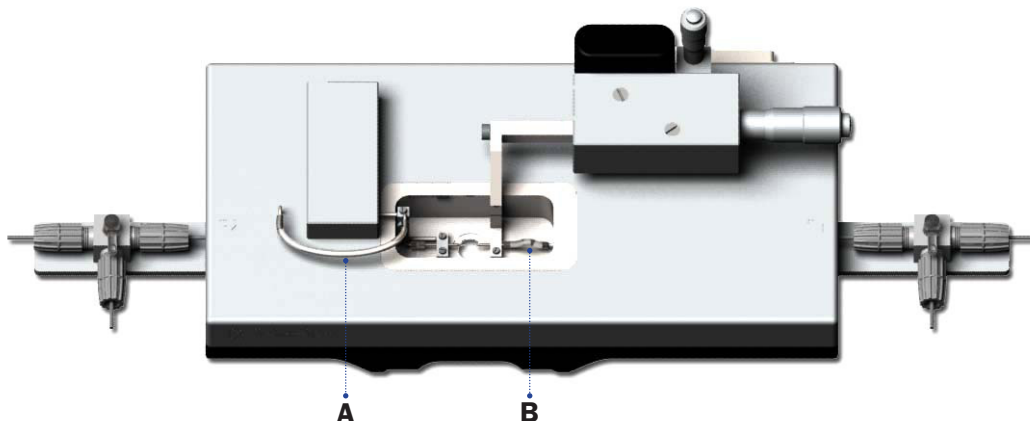

Figure 5.12 Disconnection of silicone tubes
3. Inside the myograph chamber, on the right side, is a small stainless steel pipe, which via a small silicone tube is connected to the right glass cannula, Fig. 5.12 B. Carefully disconnect the silicone tube from the stainless steel pipe.
4. Carefully disconnect the silicone tube between the “outlet connecting pipe” and the “outlet pressure transducer connecting pipe”, fig. 5.12 A.